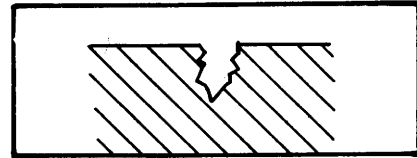

Fig. 1
- Apply the detergent at least one hour before applying the diffusion fluid to ensure that any grease is removed from the metal surface and its flaws (cracks, fissures, etc.) (Fig. 1) (see safety instruction, page 3-6-02)